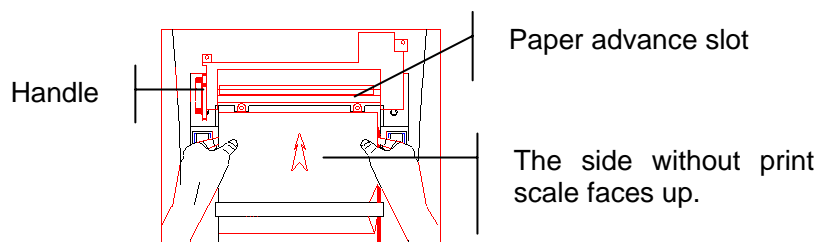

Figure 2-1 Diagram of feeding paper
- 3) Feed the recorder paper into the paper advance slot (Figure 2-1). The paper will come out from the notch automatically. Adjust the paper length by rotating the gear on the left of the handle if required.